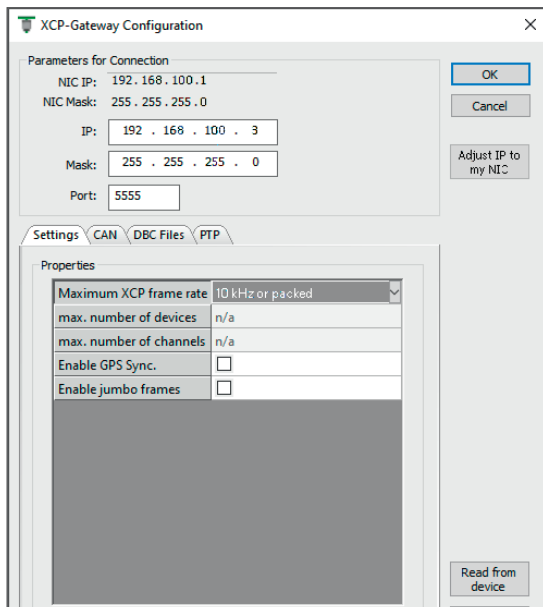

Fig. 5-23: **XCP Gateway Configuration** dialog, **Settings** tab
- ☞ Click on **Write to device** (Fig. 5-23) to transfer the settings to the HV BM 3.1 OBC.
The following sections describe the functions and setting options of the **Settings** tab (Fig. 5-23).